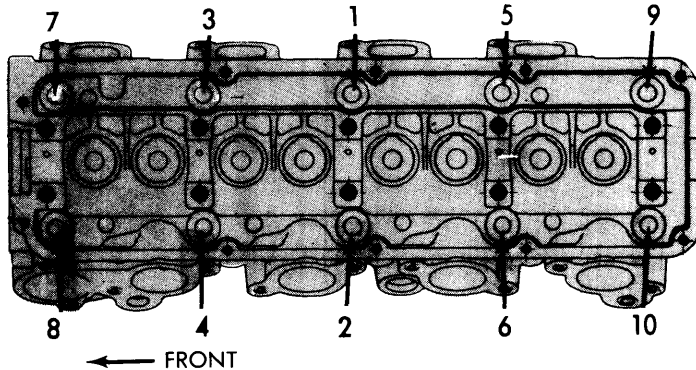

Fig. 1 Cylinder Head Tightening Sequence
2) Dip head bolts and washers in engine oil before installation. Install and tighten bolts in sequence shown in Fig. 1.